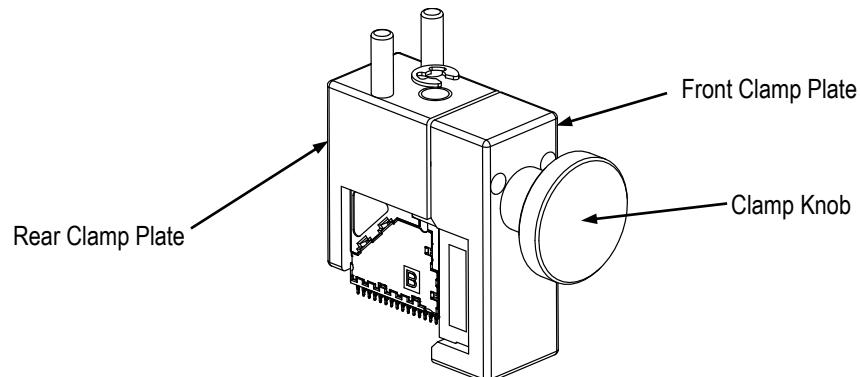

Figure 3
3. Tighten the clamp knob to clamp the receptacle. Hand tightening should be sufficient. See Figure 3.